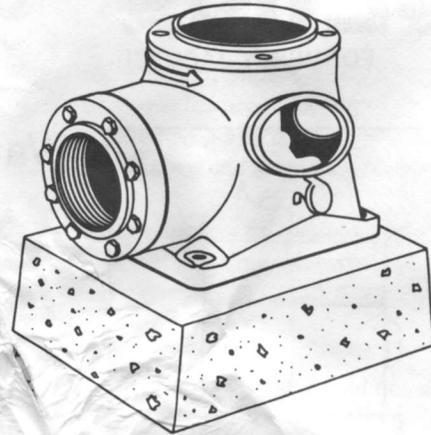

FIG. 2
**FOUNDATION:** An adequate concrete foundation is desirable. For average soil conditions and settings, a foundation 12" thick is sufficient if it is placed on firm soil. See Figure 2.